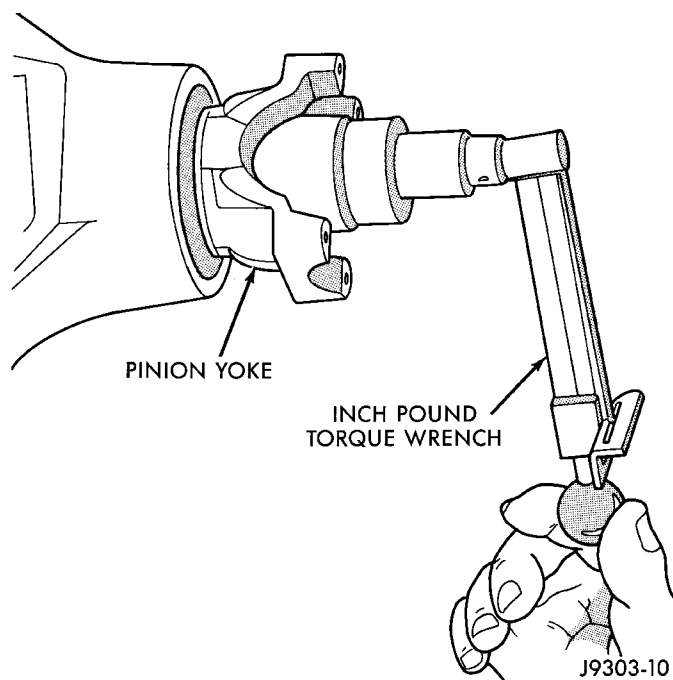

Fig. 53 Check Pinion Gear Rotating Torque
(15) Slowly tighten the nut in 6.8 N·m (5 ft. lbs.) increments until the rotating torque is achieved. Measure the rotating torque frequently to avoid over crushing the collapsible spacer (Fig. 53).
(16) Check bearing rotating torque with an inch pound torque wrench (Fig. 53). The torque necessary to rotate the pinion gear should be:
- (17) Install differential in housing.